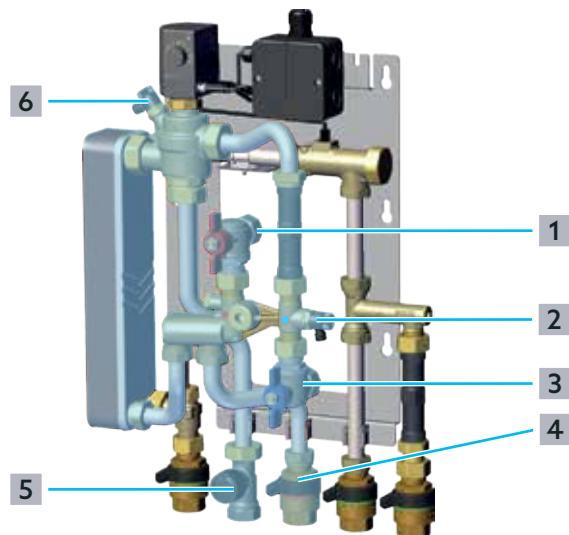

Fig. 14: Filling and venting the heating circuit
- 1** Check that the drain valve ((2) in Fig. 14 on page 21) and the vent valve (6) in the primary circuit are closed.
- 2** Open the ceramic disc valve in the heating circuit supply (4).
- 3** Open the zone valve in the heating circuit return (5).
- 4** Slowly open the angle ball valve in the primary supply (1) to fill the dwelling station.
- 7 As soon as water escapes without bubbles, close the drain valve ((2) in Fig. 14 on page 21).
- 8 Open the vent valve (6) in the heating circuit slightly.
- 9 As soon as water escapes without bubbles, close the vent valve (6).